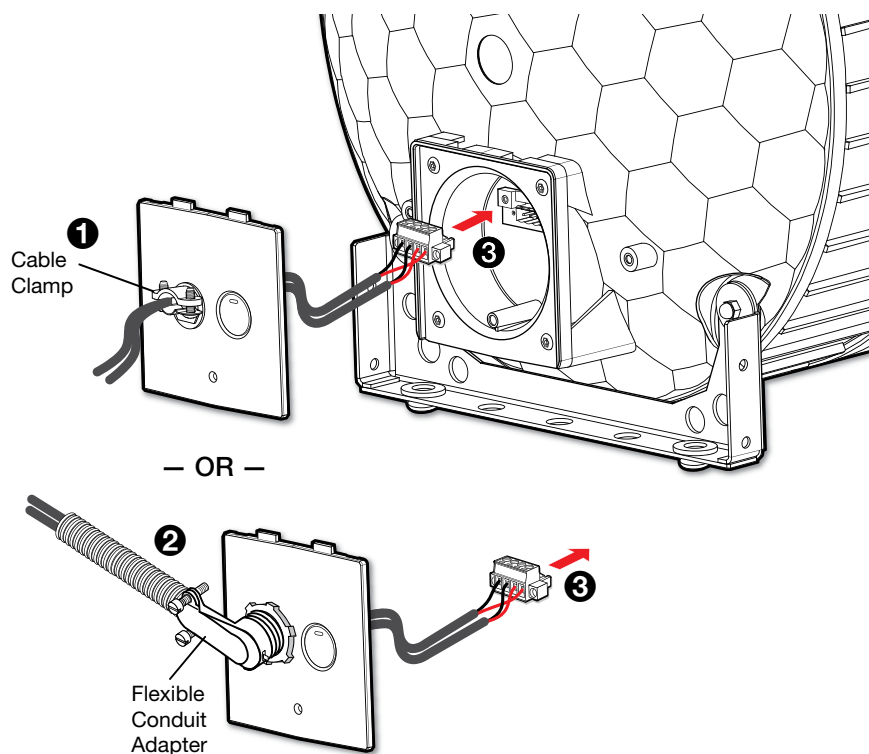

Figure 10. Connection Using a Cable Clamp or Flexible Conduit
- **When not using flexible conduit:** Route the speaker wires through the cable clamp (see figure 10, ①).
- **When using flexible conduit:** Remove the cable clamp and install the flexible conduit into the plate opening. Secure the flexible conduit to the plate with the locking nut and pull the speaker wires from the flexible conduit (②).
5. Insert the captive screw plug into the four-pole receptacle of the subwoofer (see figure 10, ③ on the previous page) and screw it into place.